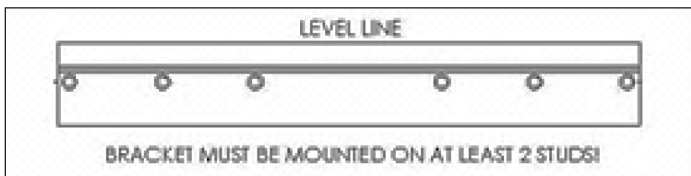

Figure 4 - Wall Mounting Bracket - NOTE: Drawing for Demonstration Purposes Only
a. The building frame (studs) must be 2 X 4 minimum and 16" on center (24" on the 399 model). If not, you must use 1/2" minimum plywood 24" x 48" with at least fourteen (14) #12 x 3" (3/16" x 3") round head tapping screws to the frame of the building to provide proper support for the boiler. No alternate methods of mounting or fastening (ex. Toggle bolts, hollow wall anchors, or any other fastener) may be used.
d. Predrill pilot holes on the marked stud locations. The pilot holes for bare studs should be 2" deep for all models. See table below for pilot hole diameter by wood type. Increase length for any material covering the stud. Ensure that the predrilled holes are straight and square to the wall. Failure to do so could lead to insufficient support or out of level boiler. See Figure 4.
c. Predrill holes on the marked stud locations. The predrilled holes should be 1/2" in diameter for 3/16" bolts, and 3/4" in diameter for 3/8" bolts, to allow for the collapsed wings of the toggle to slide through. Ensure that the predrilled holes are straight and square to the wall. Failure to do so could lead to insufficient support of out of level boiler. See Figure 4.